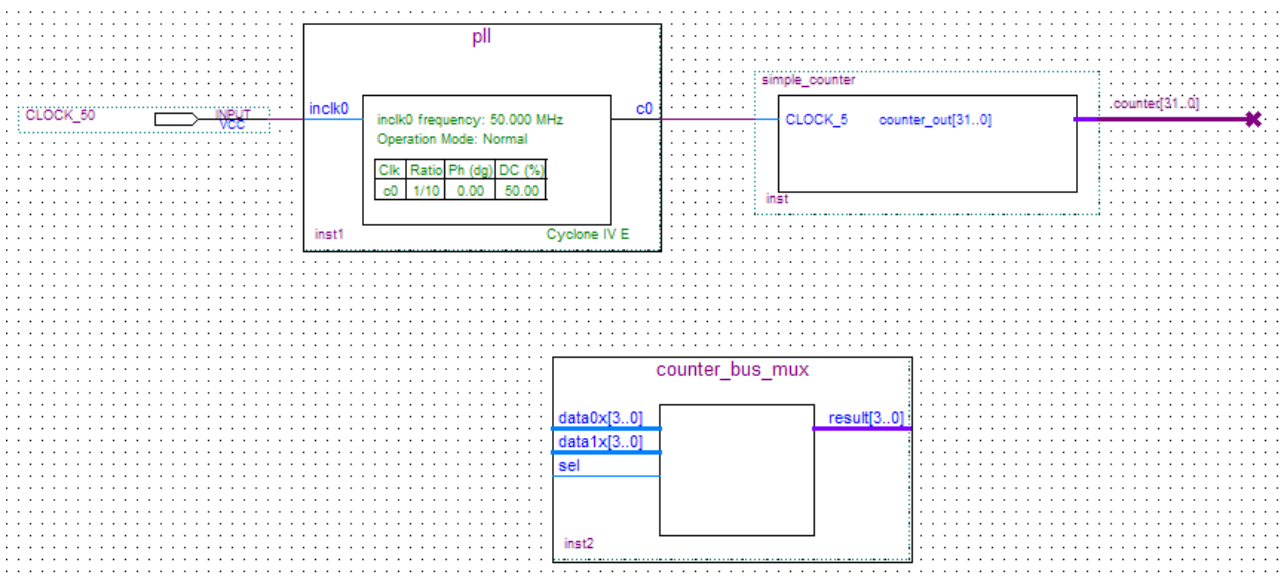

Figure 6-36 Place the lpm_mux symbol
14. Place the **counter_bus_mux** symbol below the existing symbols on the BDF, as shown in **Figure 6-36**.